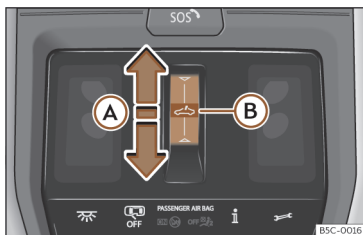

Fig. 94 On the interior roof lining: sunroof button.
- Automatic movement: slide your finger back over the functional area >>> **Fig. 94 (A)**.
forward over the functional area ↵ >>> **Fig. 94** **Ⓐ** and keep pressed until the sunroof is fully closed.